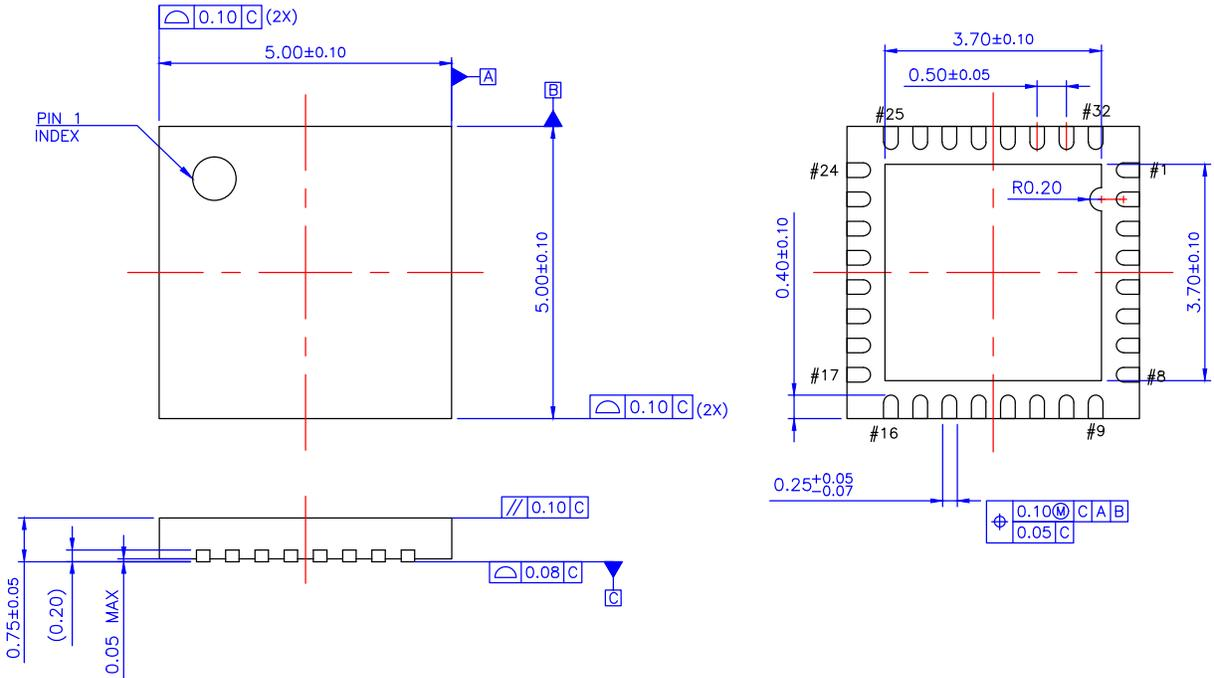

Figure 100. 32-Pin QFN Package Dimensions
► **Note:** In Figure 100, dimensions are in millimeters.